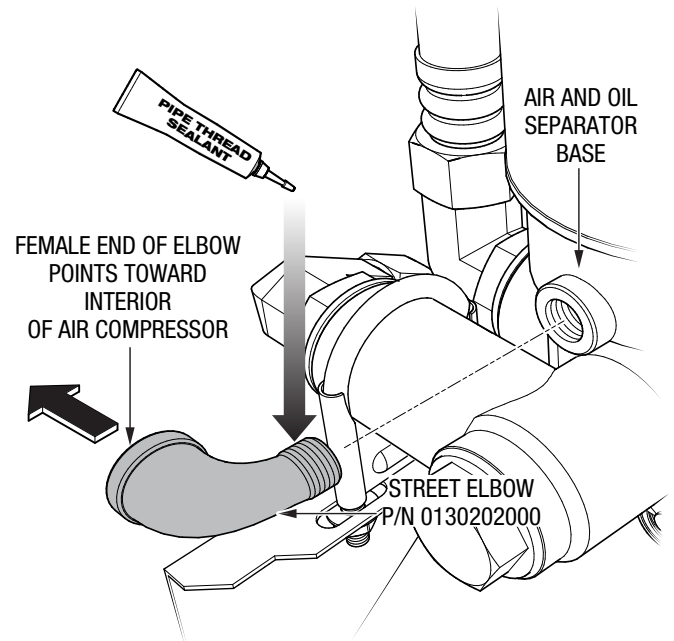

Figure 18. Street Elbow Installation
- Apply a small amount of pipe thread sealant to the male threads on the street elbow (P/N 0130202000). See Figure 18.
- Insert the street elbow (P/N 0130202000) into the open port on the air and oil separator base (Figure 18). Tighten the elbow securely while making sure the female end of the elbow points toward the interior of the unit as shown.